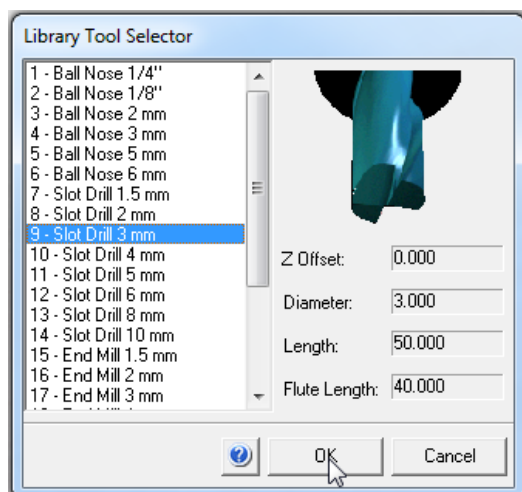

Figure 6
- In the Library Tool Selector window select the 3mm Slot Drill (Figure 6) and click OK.